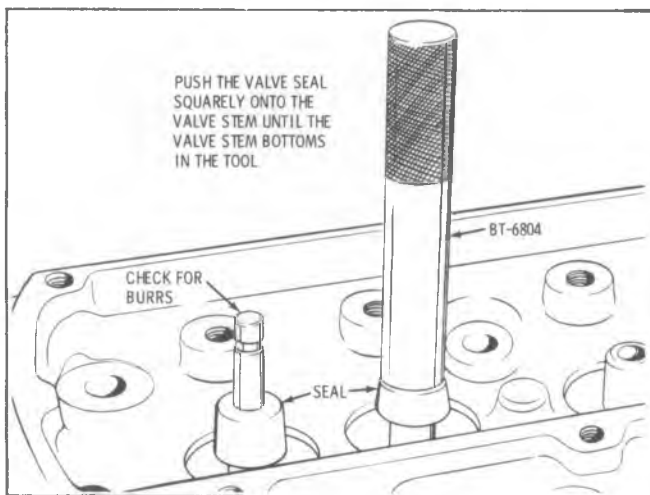

Fig. E-42—Valve Seal Installation
2. Install new oil seals over valve stem, using Tool BT-6804. (Fig. E-42)